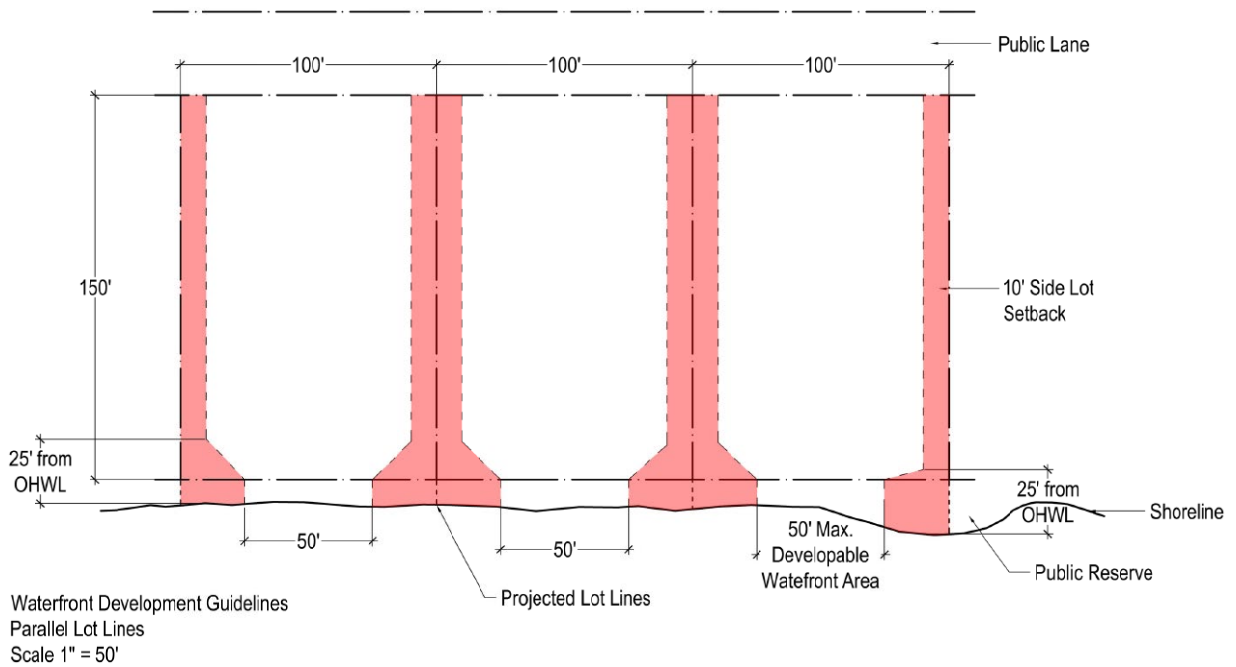

**Figure 6**
**Please see Figure 6 for reference.**